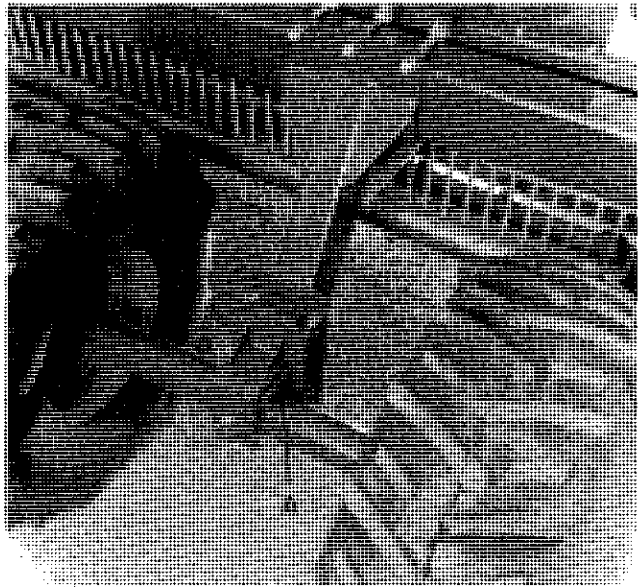
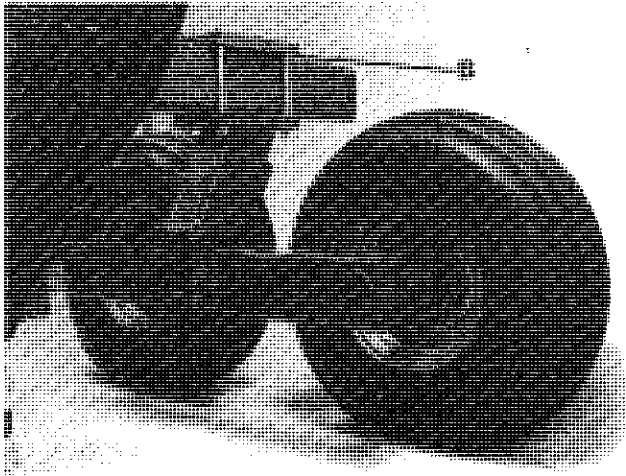

FIGURE 14 - OSCILLATING CARRIER WHEEL
FIGURE 15 - WALKING BEAM CARRIER WHEELS
To level machine on left side, move spindle support bracket (A) (see figure 14) up or down on oscillating struts. To level machine on right side, use  $\frac{3}{4}$ " spacers (B) provided to raise or lower machine as required (see figure 15).